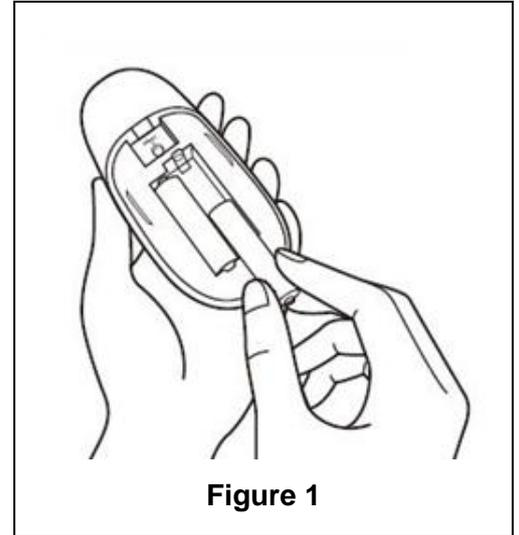

Figure 1
- Install two AAA batteries (see Figure 1). Ensure the batteries are orientated according to the markings inside the housing + to + - to -